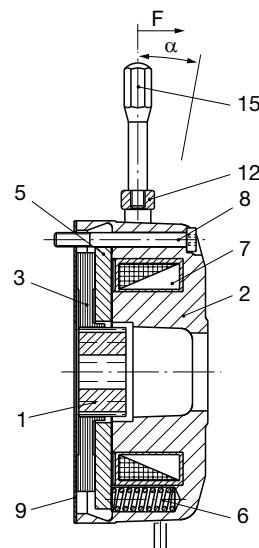

Fig. 2
- The positional tolerance of the threaded holes for the cap screws (Item 8, Fig. 2) must not exceed 0.2 mm.